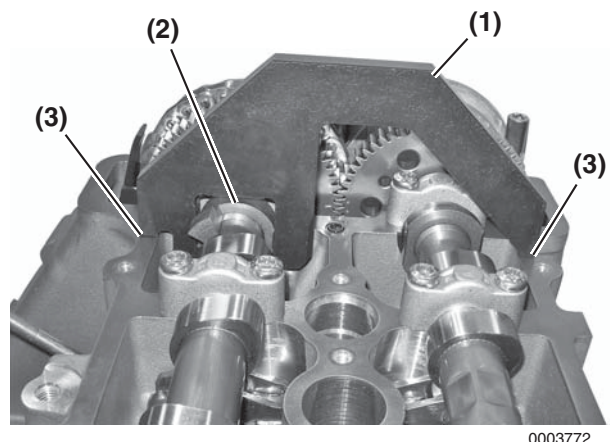

Figure 5-75
5. Install special tool OEM No. 11 6 321 (**Figure 5-75, (1)**) on the flats of the intake camshaft (**Figure 5-75, (2)**). The tool must set firmly on the machined gasket surface (**Figure 5-75, (3)**) on each side of the cylinder head. If it does not, the timing must be adjusted. See *Adjust Camshaft Timing* on page 5-45.